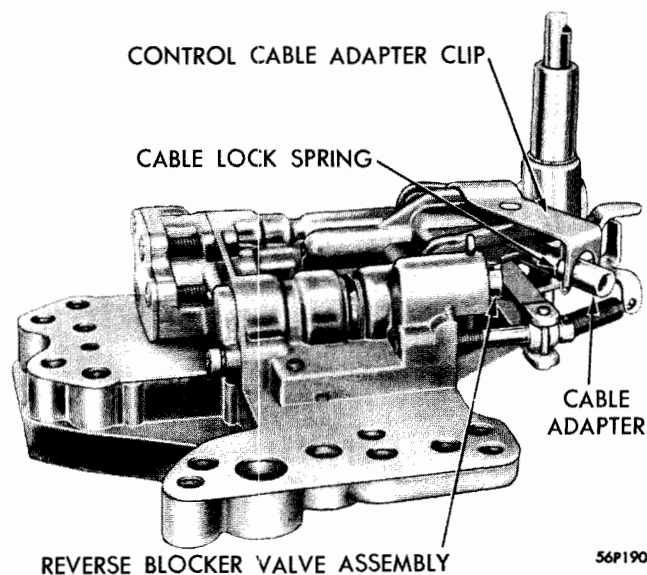

Figure 54—Control Cable Adaptor and Reverse Blocker Valve
INSTALLATION—TRANSMISSION END—When installing the cable in the transmission, be sure the cable is fully extended by pushing the low (L) button. With the cable extended, the housing will enter the transmission case the proper distance preventing damage or possible displacement of the "O" ring if the housing was inserted too far. Push the cable into the cable adaptor as far as it will go; pull outward on the cable to make sure it is securely locked in the adaptor. Push the low (L) button in the full length of its travel and hold in this position. With the low (L) button held in push the control cable into the adaptor in the transmission as far as it will go. Withdraw the cable slightly to make sure the low range detent is fully seated. The panel control and the transmission are not both in low range. Lock the cable in place by tightening the cable bracket screw being careful not to move the cable. See Figure 54.